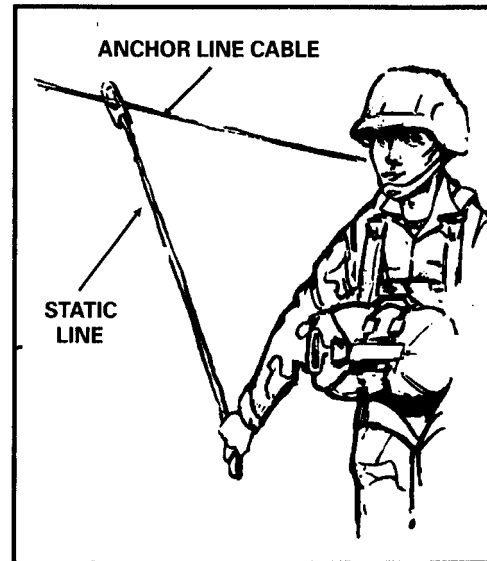
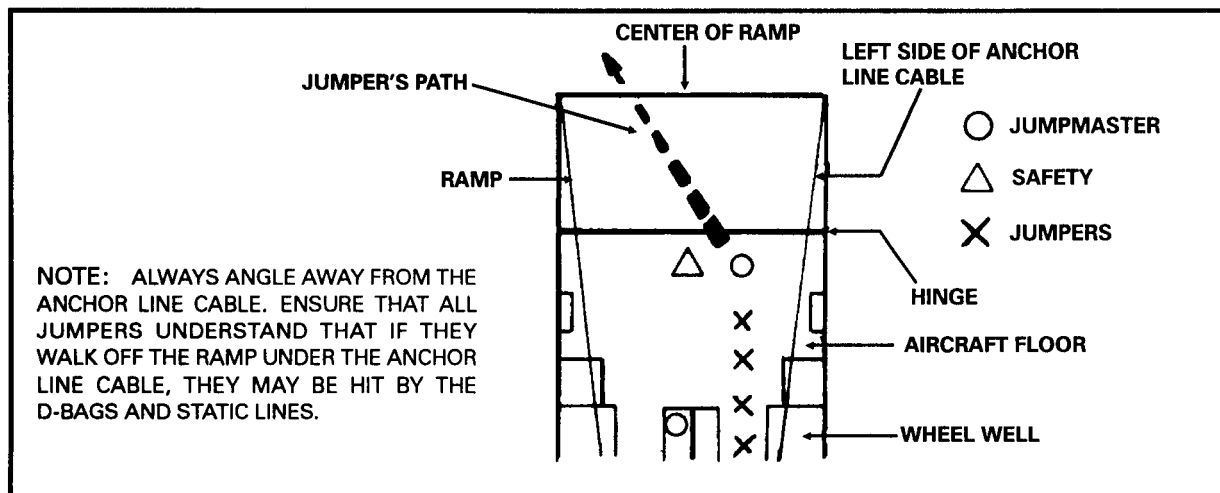

Figure 16-5. Static line grasped with reverse bight.
Figure 16-6. Personnel locations.
(1) An oral 10-minute warning is given, and the JM begins the jump commands. Prior to the 10-minute warning, the JMs hookup to the anchor line cable, hand the static line to the safety, and announce, SAFETY, CONTROL MY STATIC LINE. The PJM then issues the jump commands. The same sequence of jump commands and the same procedures are used for the door and ramp.
(2) Jumpers hook up to the appropriate anchor line cable with the open side of the snap hook facing outboard toward the skin of the aircraft. They maintain a reverse bight (Figure 16-5).
(3) Door check is not required. If using GMRS, the PJM must spot the ground marking from the left side of the ramp.
(4) After giving the command STAND BY, the JM moves to the center edge of the ramp and exits on green light. The safety positions himself immediately behind the hinged portion of the ramp and controls the flow of parachutists.
(5) Each parachutist walks off toward the center of the ramp at an angle away from the anchor line cable (Figure 16-6).